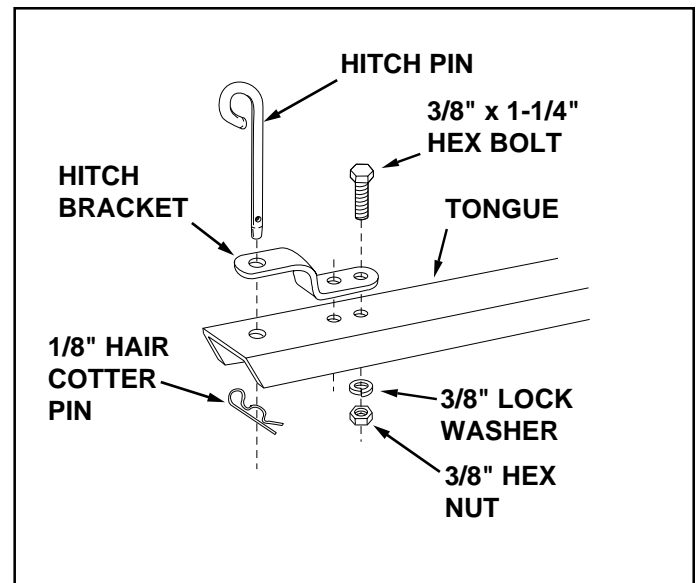

FIGURE 3
5. Assemble the hitch bracket to the drawbar tongue, using two 3/8" x 1-1/4" hex bolts, 3/8" lock washers and 3/8" hex nuts. **Tighten**. See figure 3.
6. Assemble hitch pin to tongue/ hitch bracket and secure with 1/8" hair cotter pin. See figure 3.